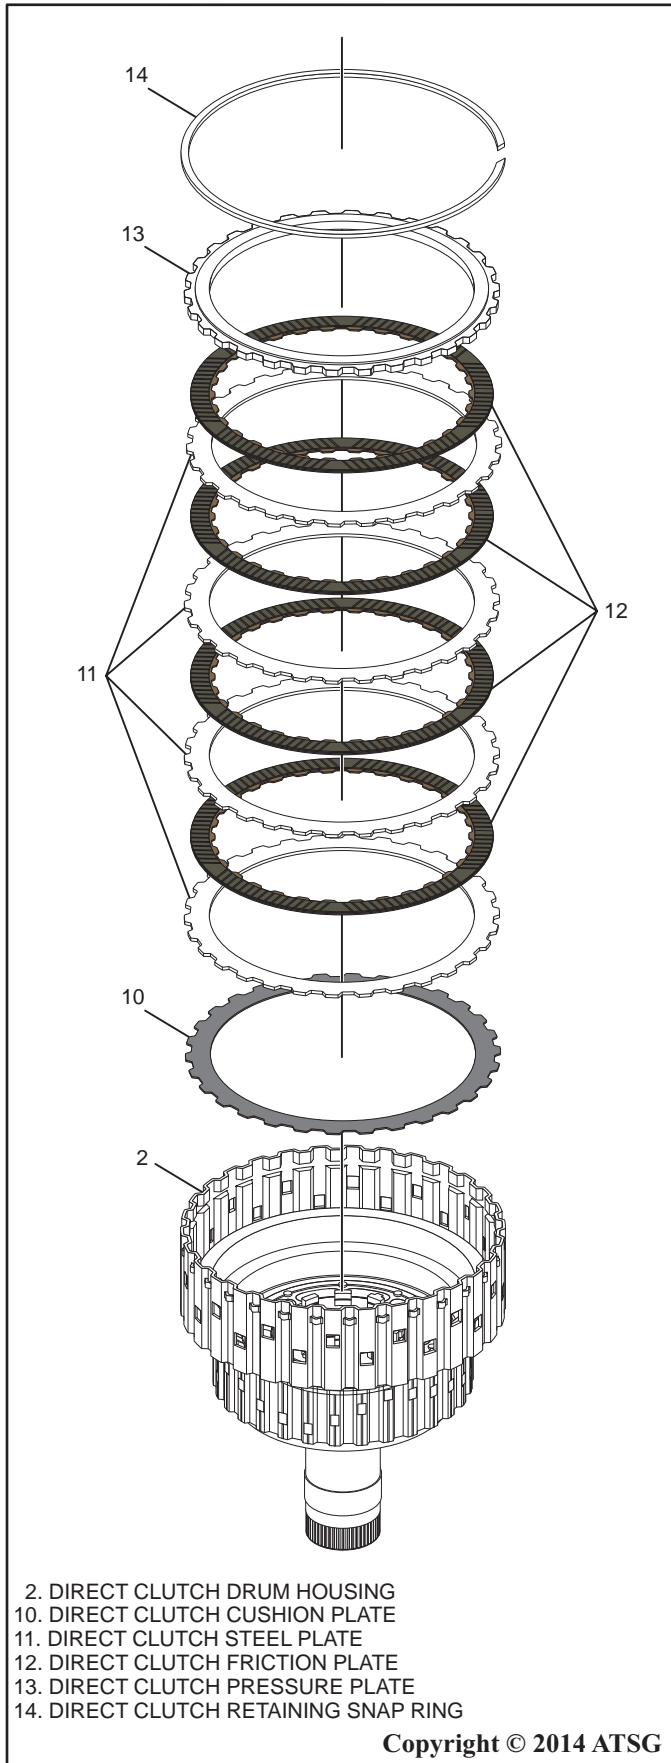

Figure 101
9. Install the direct clutch cushion plate as shown in Figure 101.
10. Install a direct clutch steel plate, then alternate installing friction plates and steel plates as shown in figure 101.
11. Install the direct clutch pressure plate as shown in Figure 101.
12. Install the direct clutch retaining snap ring as shown in Figure 101.